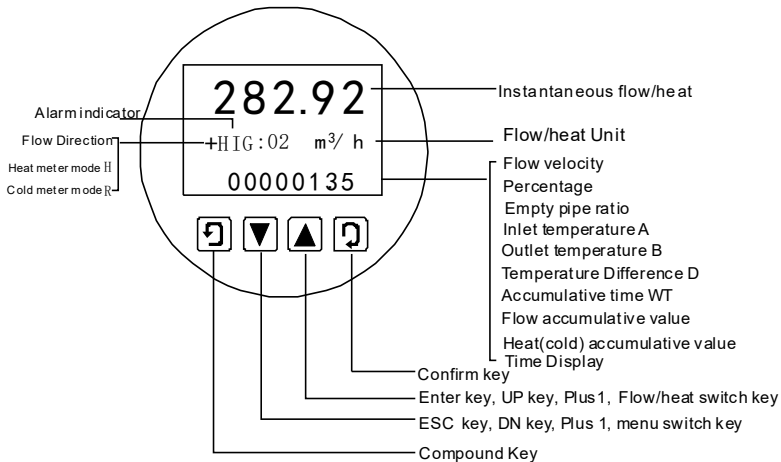

Fig.40 Keys definition and LCD
- ③ Determine the insertion depth of the insertion-type electromagnetic flowmeter (i.e., the position of the two electrodes on the sensor within the pipeline).
- ④ Install a DN50 ball valve onto the mounting base as shown in Figure 40. Make sure the longer cavity of the ball valve faces upward. Check that the valve can open and close fully. Tighten the compression nut and positioning screw. Ensure the sensor's direction indicator aligns with the fluid flow direction.
- ⑤ Determining the insertion depth of the insertion-type electromagnetic flow sensor: